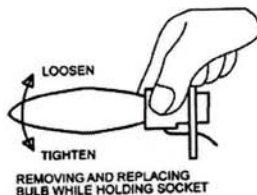

FIGURE 13
3. Hold the socket while unscrewing the bulb. (FIGURE 13)
2. Hold the socket while unscrewing the bulb. (FIGURE 13)